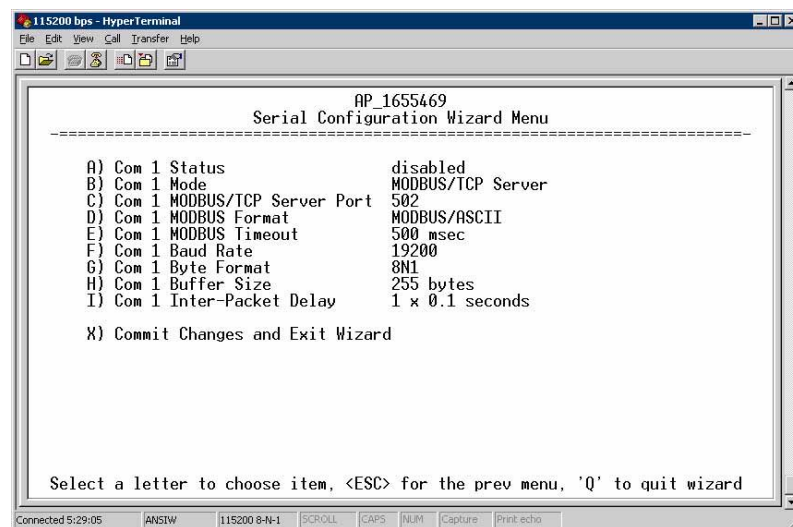

Figure 3-51. Serial Configuration Summary Screen
8. Review all settings on the summary screen shown in Figure 3-51. If all settings are correct, press X to confirm and exit the wizard. If not, select the letter of the item(s) you wish to change.